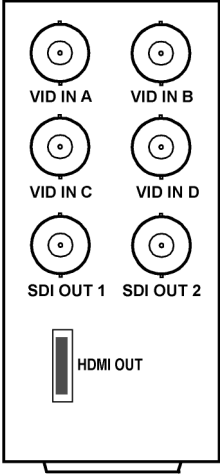

**Figure 2-1** Rear I/O Module Installation
2. In the mounting area corresponding to the slot location, install Rear I/O Module as shown in Figure 2-1.